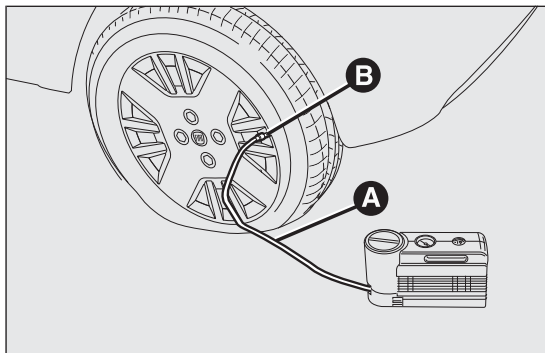

fig. 128
- ❑ Apply the handbrake. Unscrew the tyre valve cap, take out the flexible filler pipe A fig. 128 and tighten the ring nut B on the tyre valve;